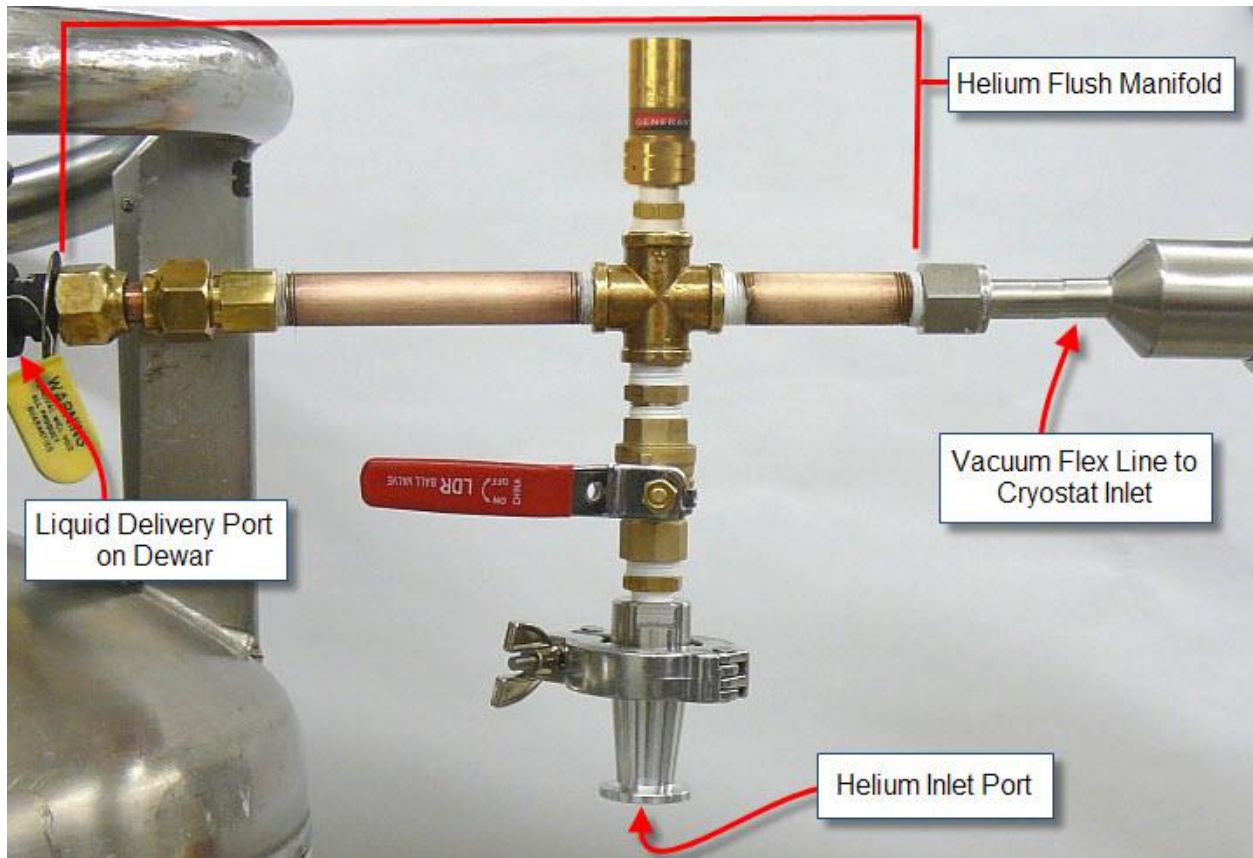
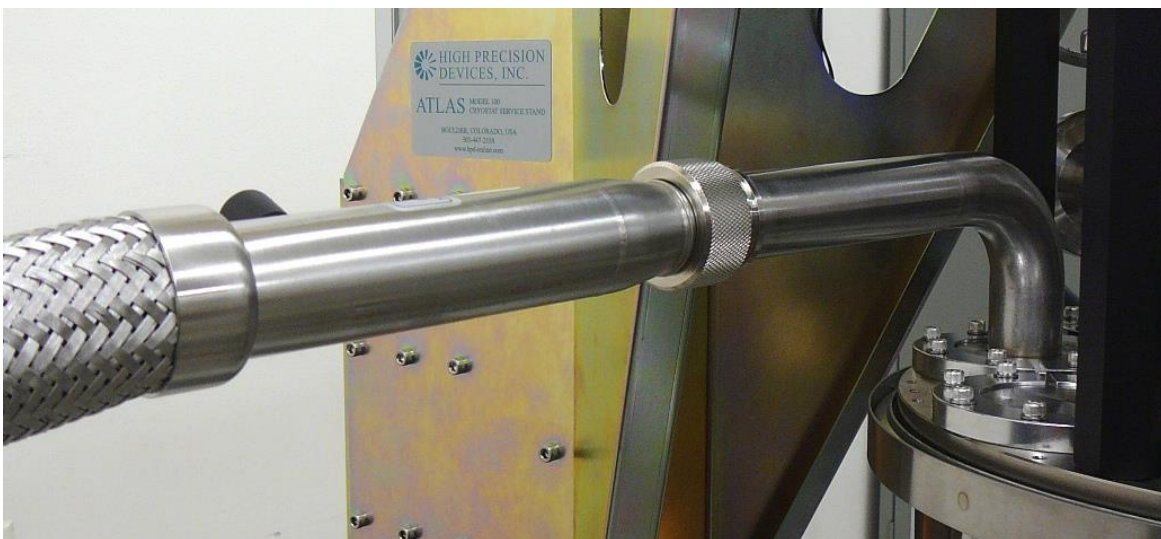

Figure 21: Helium Flush Manifold, flex line attachment to dewar
Figure 22: Flex Line attached to Cryostat inlet bayonet
- Attach nitrogen dewar to Inlet Bayonet on Cryostat using the Vacuum Insulated Flex Line and a Helium Flush Manifold at the dewar end of the flex line, as in Figure 21 and Figure 22.
- Attach helium supply line to Helium Flush Manifold, see Figure 21.
- Remove Flex Line from cryostat inlet bayonet, and then cap cryostat inlet bayonet, see Figure 22 and Figure 23.